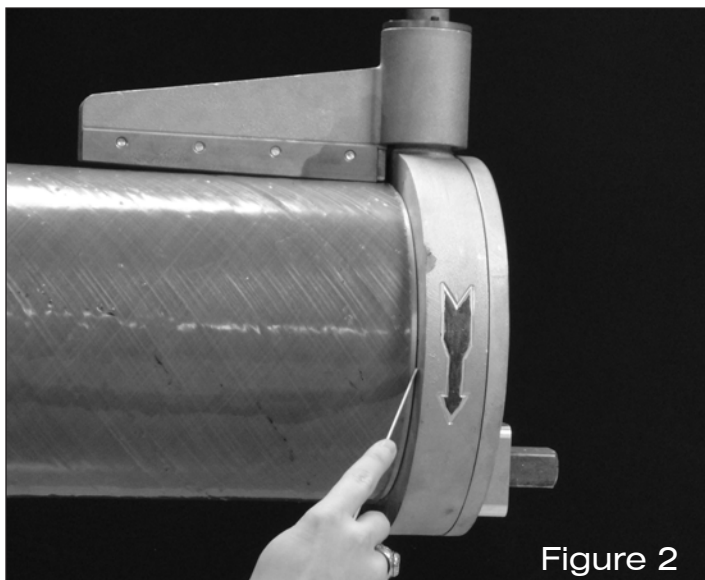

Figure 2
2. Insert the tool into a piece of pipe with a factory taper. The small shoulder on the mandrel should be against the end of the pipe. (See Fig. 2.)